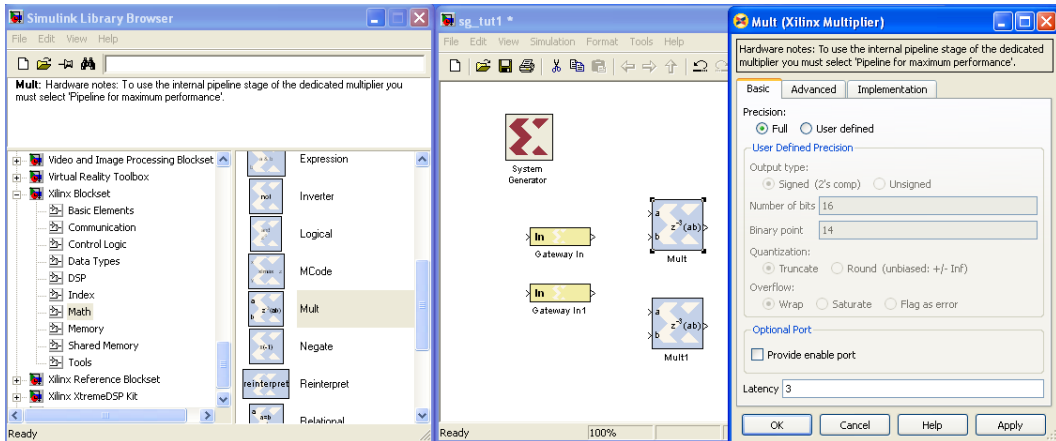

Figure 4: Adding Multipliers
- **Multipliers:** Our model requires two multiplication operations. Xilinx System Generator Blockset provides several blocks for arithmetic operations. To place a hardware multiplier block select **Xilinx Blockset**→**Math**→**Mult**. Place two multipliers as shown in Figure 4. Double click on the **Mult** block to change its properties. As shown in Figure 4 there are two **basic options** for output precision in the basic properties: i) full and ii) user defined. In the full precision option, the multiplier block uses the input fixed point format to determine the format of the output. In our case the full precision requires 32 bits with the binary point at bit position 24. In the user defined precision mode, the designer can specify a different format. In this case the designer needs to specify a rounding method for excessive data values. In this tutorial we will use full precision option. Also